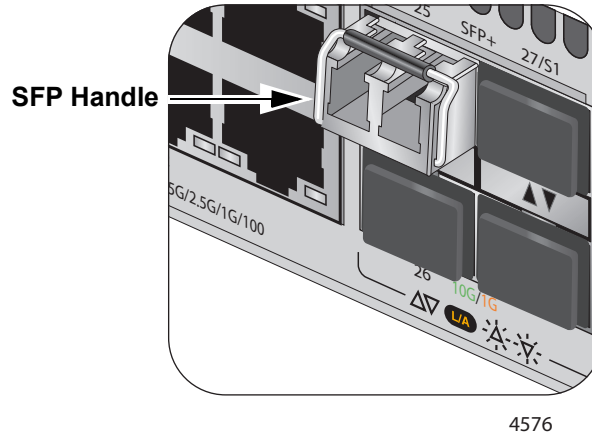

Figure 44. Positioning the SFP or SFP+ Handle in the Upright Position
7. Verify the position of the handle on the transceiver. If the transceiver is in a top port, the handle must be in the upright position, as shown in Figure 44. If the transceiver is in a bottom port, the handle must be in the down position.